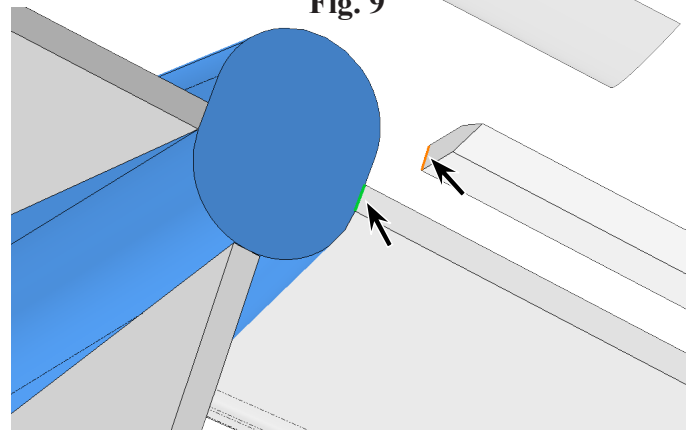

Fig. 10
Step 4. Click **end (root) edge of H Stab at Fuselage** and **end edge of Elevator**, Fig. 10.